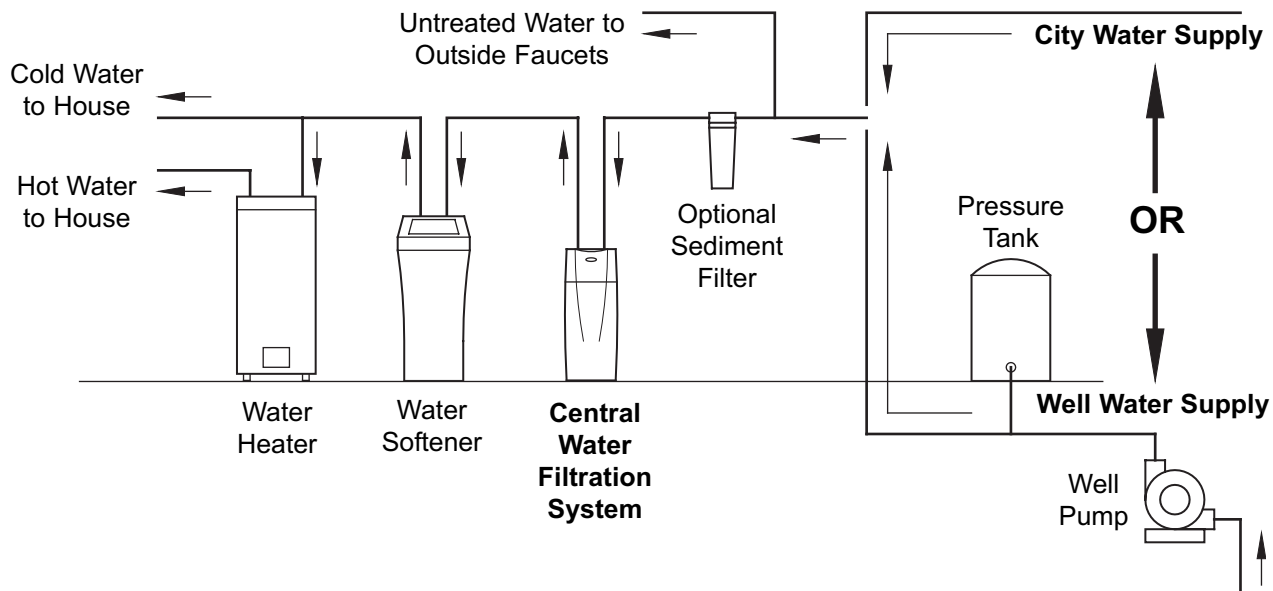

FIG. 3
- Do not install the Central Water Filtration System on a hot water line (See Figure 3 below).
- Install the Central Water Filtration System between the home's incoming water supply and the water softener, if one is being used (See Figure 3).